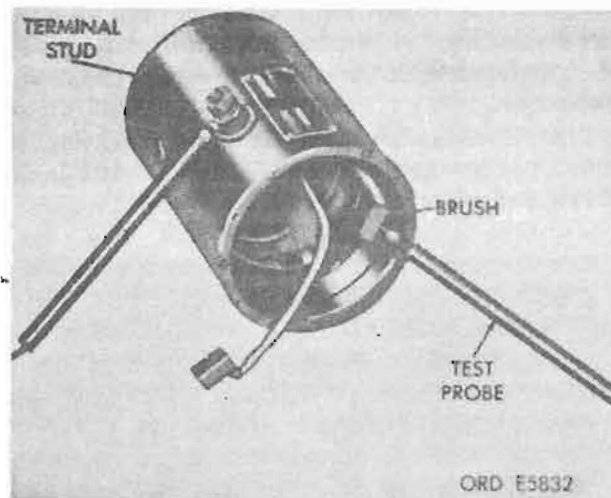

Figure 7-13. Testing frame and field assembly for opens.
(4) Test frame and field assembly for opens as shown in figure 7-13. Touch one probe of continuity tester to terminal stud and other probe to either brush. If open circuit is indicated, discard frame and field assembly.
(5) Brush paint inside of frame and field assembly and pole pieces with air-drying, fungus-resistant varnish. Do not paint pilot area, brush leads, or brushes.